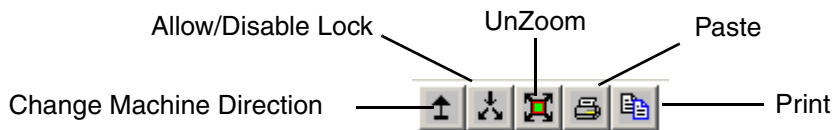
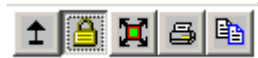

Figure 50. Controls for Machine Direction View
Figure 51. Locked Position
The tool bar for the Machine Direction view is shown in Figure 50.
- **Enable/disable the Ruler Lock** - This button lets you lock the machine direction ruler so you can operate it independent of the Contour Map Cross Hair Control. When the button is in the unlocked position as shown in Figure 50, the MD Ruler is synchronized (moves) with the Contour Map Cross Hair Control. When the button is in the locked position, Figure 51, the MD Ruler does not move with the Contour Map Cross Hair Control, and can be operated independently.